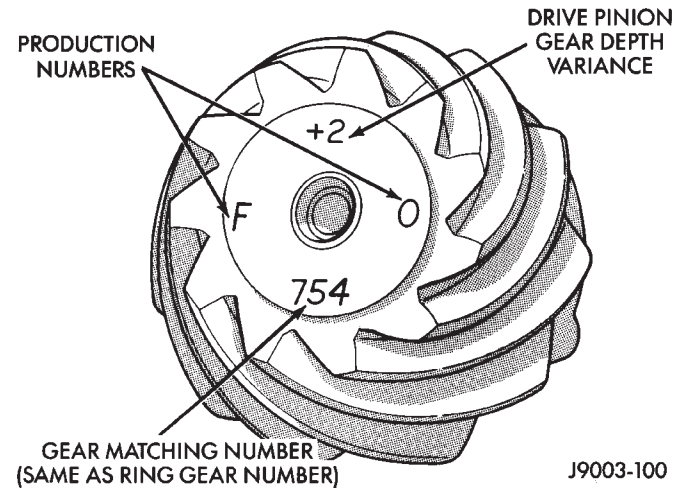

Fig. 57 Pinion Gear ID Numbers
Ring and pinion gears are supplied as matched sets only. The identifying numbers for the ring and pinion gear are etched into the face of each gear (Fig. 57). A plus (+) number, minus (-) number or zero (0) is etched into the face of the pinion gear. This number is the amount (in thousandths of an inch) the depth varies from the standard depth setting of a pinion etched with a (0). The standard setting from the center line of the ring gear to the back face of the pinion is 109.52 mm (4.312 in.). The standard depth provides the best teeth contact pattern. Refer to Backlash and Contact Pattern Analysis Paragraph in this section for additional information.
(9) Select a shim equal to the thickest dial indicator reading plus or minus the drive pinion gear depth variance number etched in the face of the pinion gear (Fig. 57).
(10) Remove the pinion depth gauge components from the axle housing.